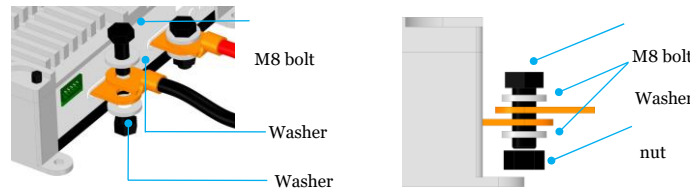

Fig. 3: Cable connection
Please make sure the washers and screw of battery and motor have been fixed tight enough (see Fig 3). When connect power wires to battery, it is IMPORTANT to correctly connect positive to positive, and negative to negative. Swap any two motor wires' connecting can change the rotation direction.
- Step ①: Keep the Switch at the OFF position
- Step ②: Connect ESC to brushless motor (see: Fig.3)
- Step ④: Connect negative(-) and positive(+) of ESC to the battery pack (see: Fig. 3)